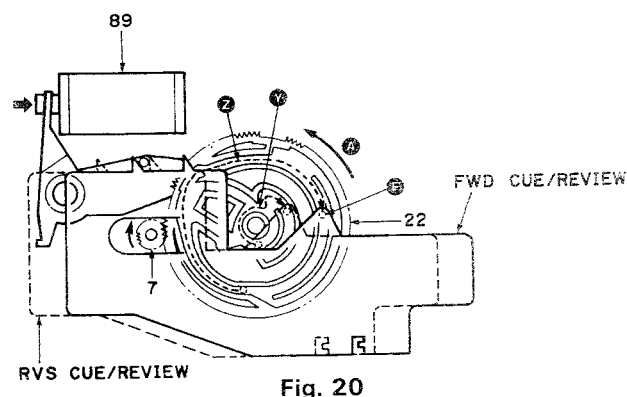

Fig. 20
- 6-4) In the transition from FWD PLAY to CUE/REVIEW, the pin (E) of the SLIDER passes through the FD GEAR orbit (Z) and moves to the CUE/REVIEW position of Fig. 20.
In the transition from RVS PLAY to CUE/REVIEW, the pin (E) of the SLIDER passes through the FD GEAR orbit (Y) and moves to the CUE/REVIEW position of Fig. 20.
- 6-6) The SLIDER is held by the protrusion (E1) of the SLIDER and pin (D) of the FD ARM.